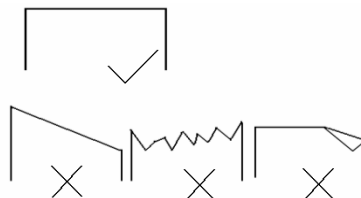

Fig.4.5.4 Paper head description
- ◆ Before feeding the paper according to the instruction of Fig.4.5.4, cut the paper head trimly.